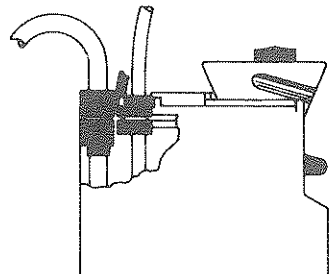

Fig. 5. Seating the Harness Strain Relief
- ◆ Slide the harness strain relief, round side down, into the track at the top of the Housing. Seat the Main Harness in the track behind the Accessory Harness (Fig. 5).